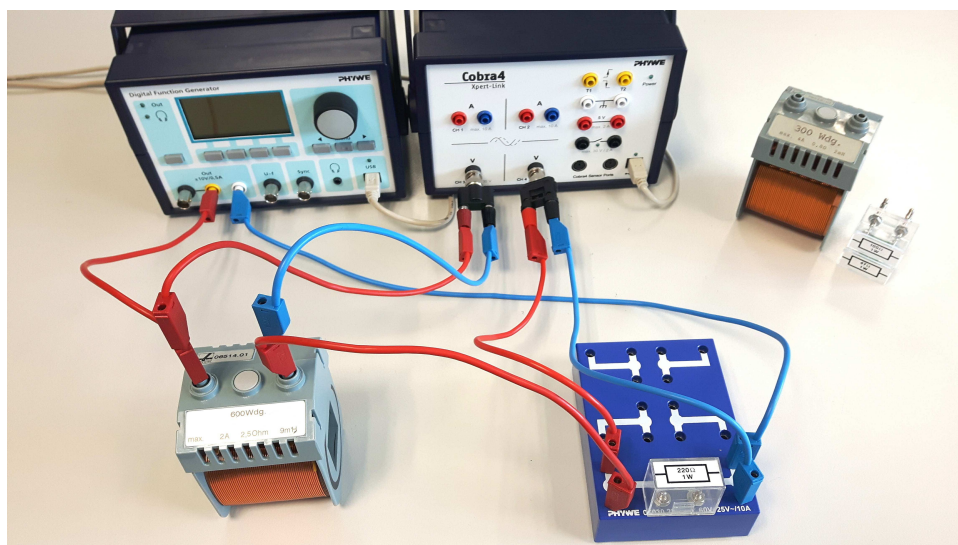

Fig. 1: Experimental setup for the measurement of the coil impedance.
- Build the electrical circuit according to figs. 1 and 2. Start with the smallest resistor (47Ω) and the solenoid with 300 turns.